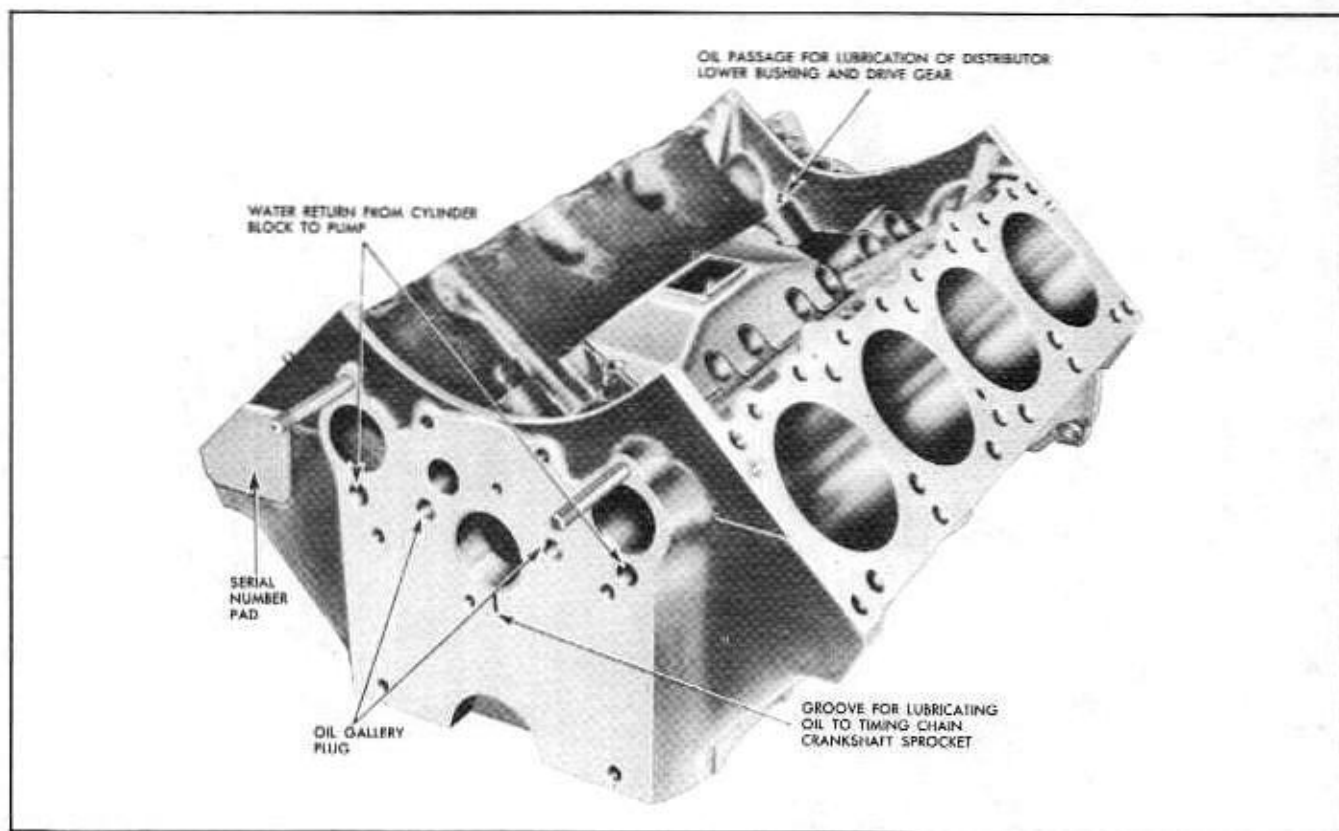

Fig. 6-54 Cylinder Block—Viewed from Left Front
3. Remove all oil passage plugs (Figs. 6-54 and 6-55).
g. Visually check passage from rear center camshaft bearing to left cylinder head and passage from front center camshaft bearing to right cylinder head (Figs. 6-54 and 6-55).